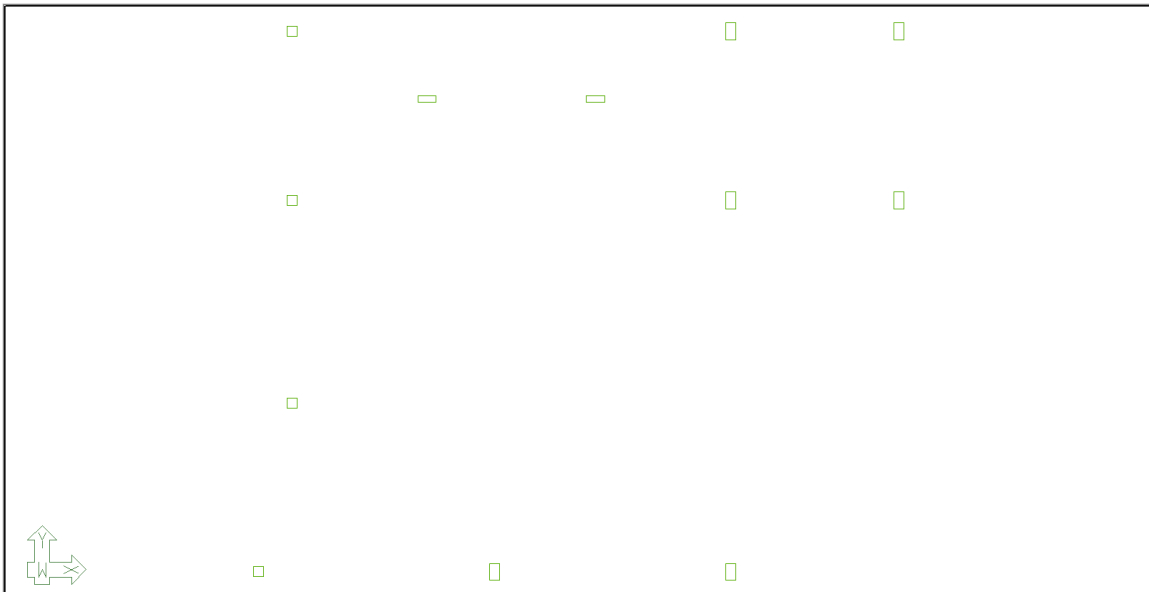

FIGURE 5-12
- Click on the **OK** button, the user should now see the polylines representing the columns from the imported DWG as shown in **FIGURE 5-12**.